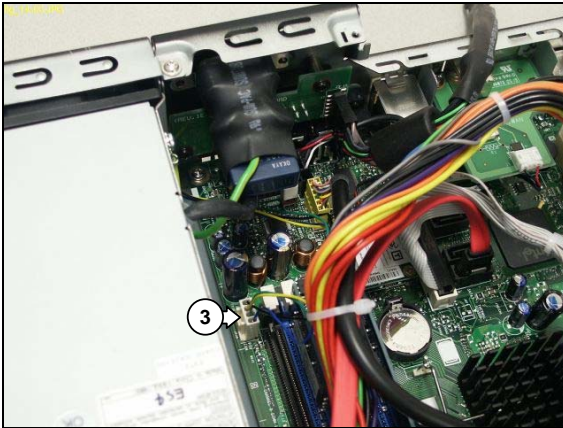

Figure 12.14-3
6. Disconnect the PSU fan cable (3) from the motherboard. See Figure 12.14-3.